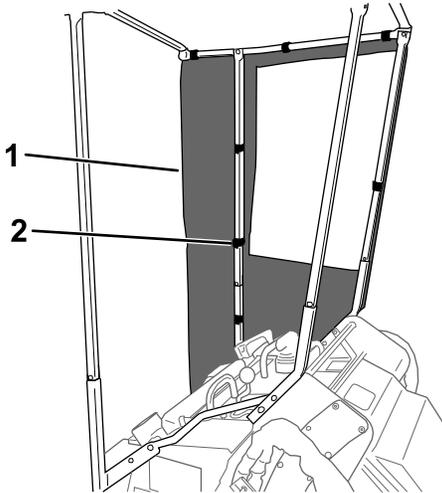
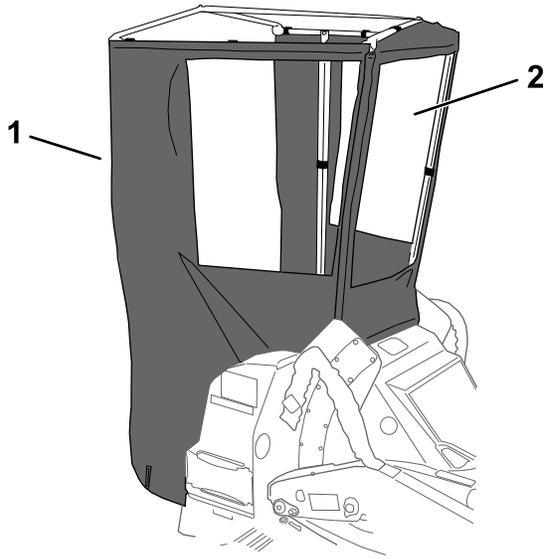

Figure 10
Figure 11
1. Install the left and right panels, using the hook and loop fasteners to secure them to the frame, as shown in Figure 10 and Figure 11.
2. Install the windshield, using the hook and loop fasteners to secure it to the panels, front frame tube, and the windshield bracket (Figure 11).